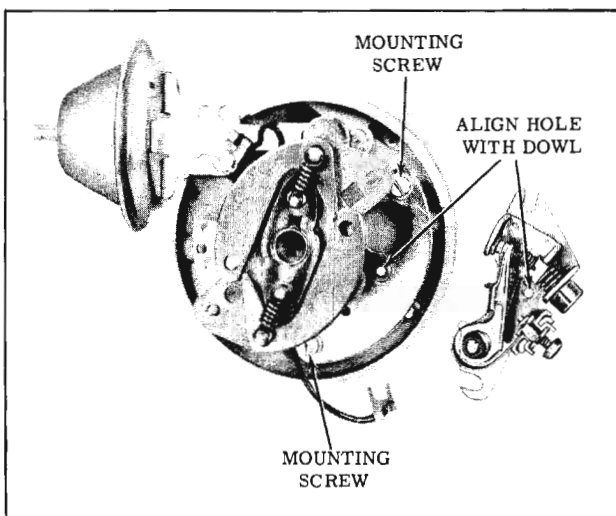

Fig. 14-120 Contact Point Position
2. Insert the right end of the contact set under its mounting screw and pivot the contact set clockwise until contact set will drop onto alignment dowel. (Fig. 14-120)